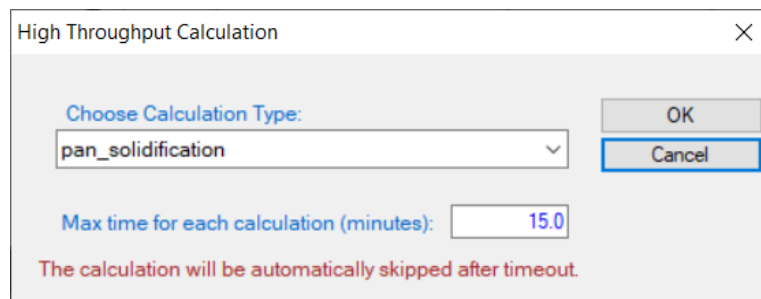

Figure 5.3.1: Dialog to choose calculation type of HTC in PanSolidification
- Choose calculation type from the drop-down list of HTC pop-up window and select “*pan_solidification*” as shown in Figure 5.3.1.